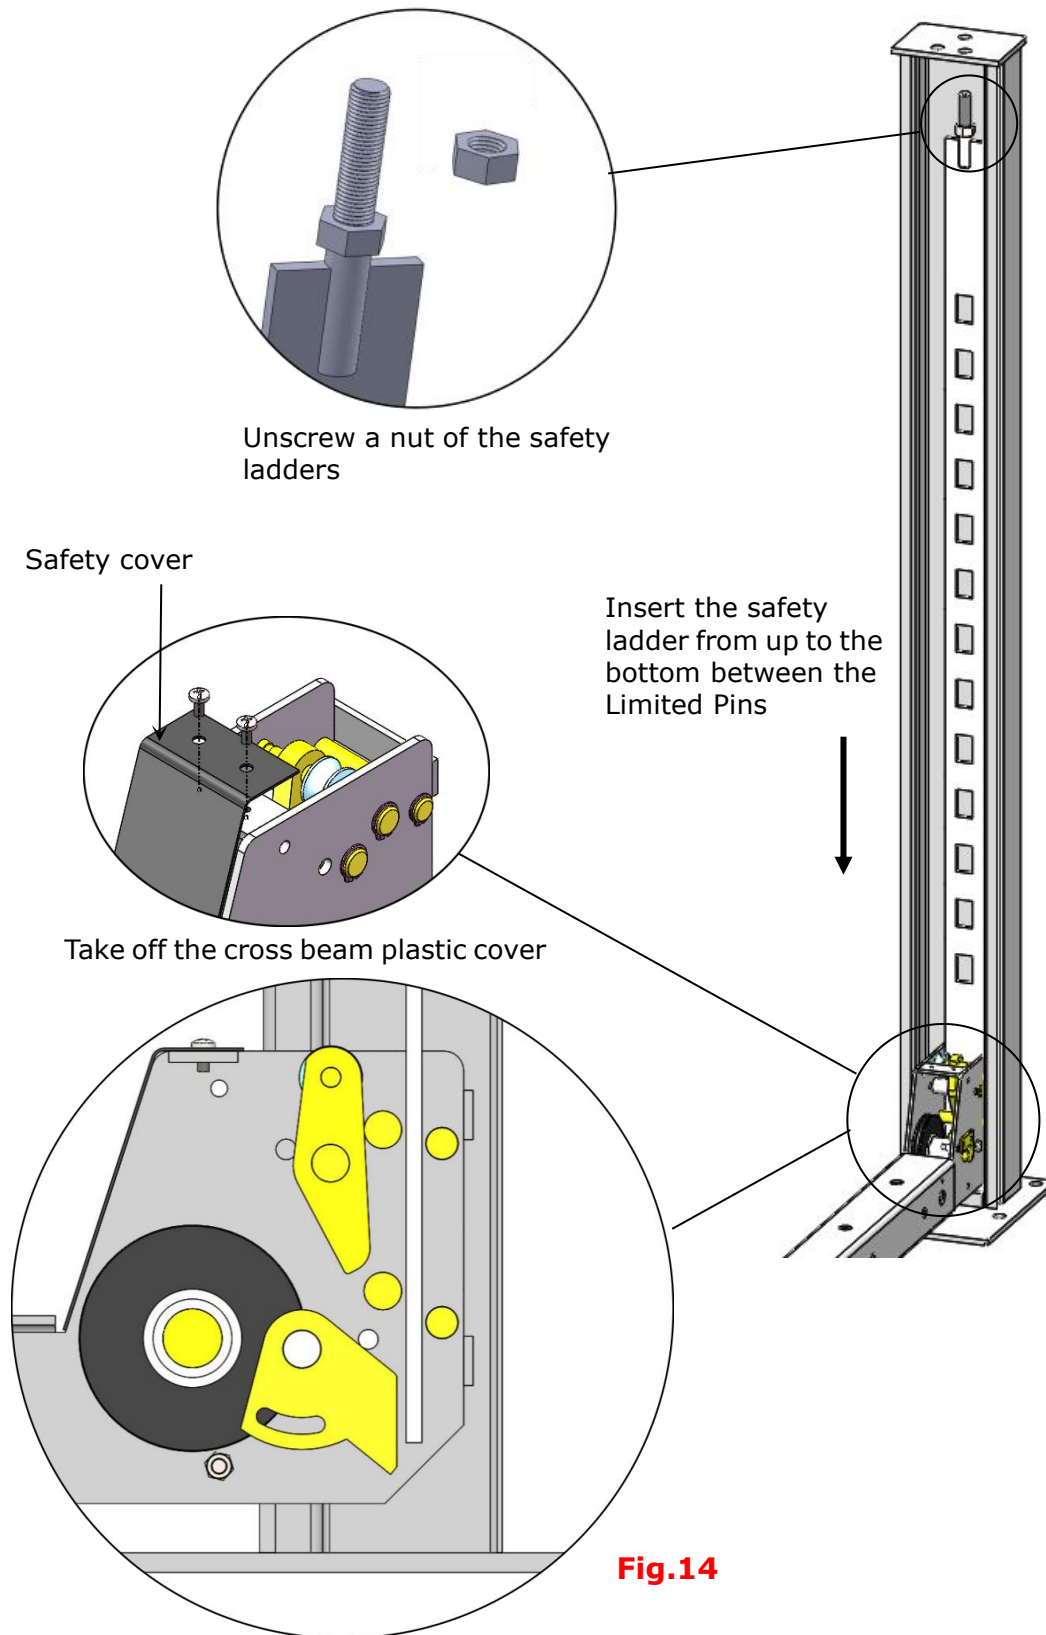

Fig.14
1. Take off the pulley safety cover and unscrew a nut of the safety ladders, and then adjust the four lower nuts to be at the same position. Then install the safety ladder (See Fig. 14).